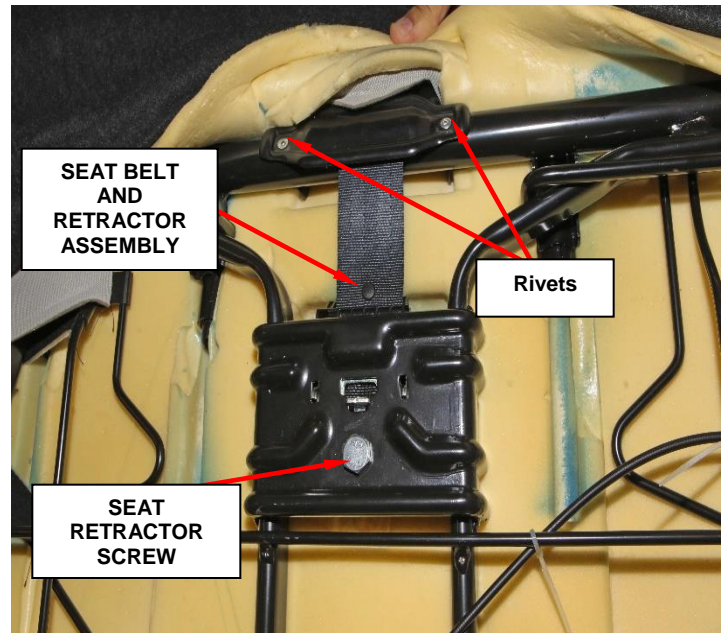

Figure 14 – Seat Back Frame
6. Remove the screw that secures the rear center seat belt retractor to the bracket on the back of the rear left seat back frame (Figure 14).
10. Install the screw that secures the retractor to the frame. Tighten the screw to 40N·m (30ft. lbs.) (Figure 14).
11. Install a **NEW** rivet into the seat belt guide (Figure 14).